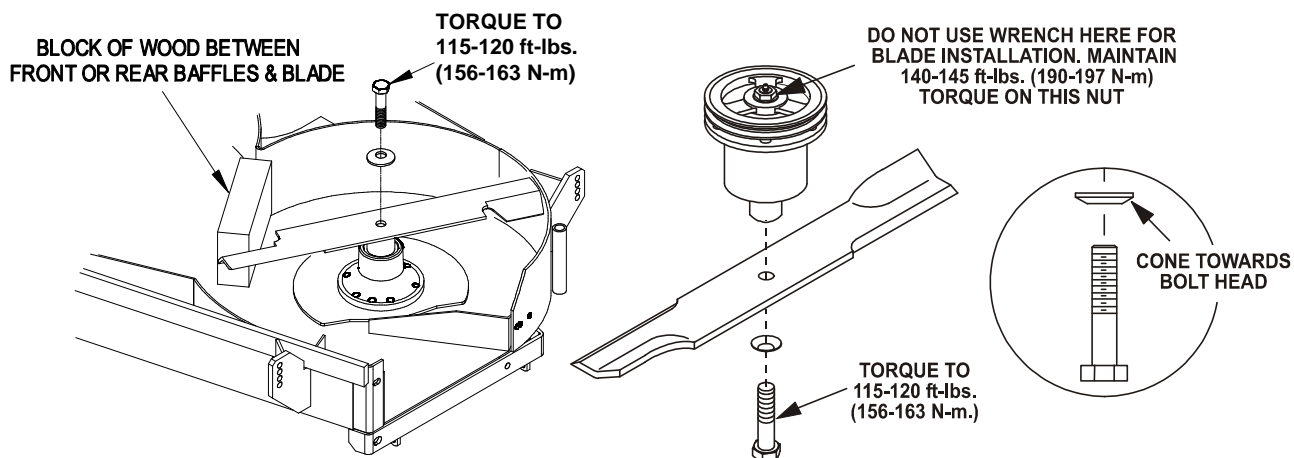

FIGURE 7
- d) Re-install the blades (if they were removed) by placing a block of wood between the front or rear baffles and the blade then torque the blade bolts to 115-120 ft-lbs. (156-163 N-m). Be sure the spring disk washer cone is installed toward the bolt head (See Figure 7).